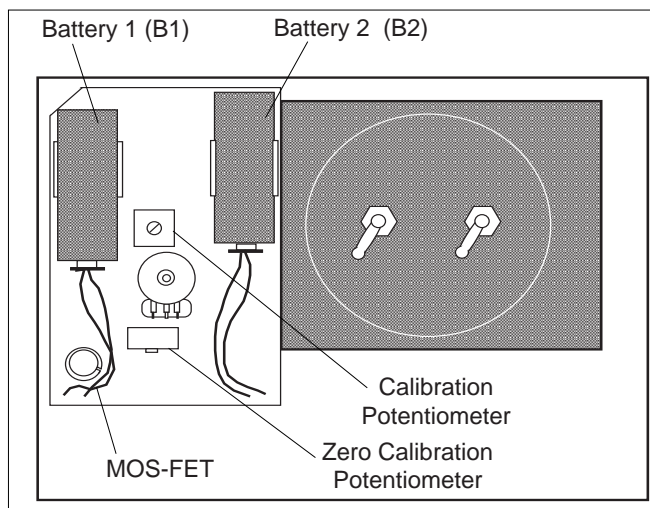

Figure 5 Inside the Electrometer
To install or replace the batteries, remove the four screws that fasten the front panel to the case, then gently lift the front panel out of the case. Install the batteries as shown in Figure 5. When removing and installing the batteries, be careful not to bend the battery clips or pull the battery wires out of the circuit board. Place the new batteries in the clips with the positive terminal closest to the printed circuit board. Before replacing the front panel, test that the batteries are good and the connections are secure by flipping the FUNCTION switch first to B1 and then to B2. The meter pointer should be deflected out beyond the areas labeled B1 and B2, respectively, at the bottom of the meter face. Replace the front panel.
- ① Remove the four screws that fasten the front panel to the case, then gently lift the front panel out of the case.
- ② Turn the POWER switch to ON.
- ③ Set the FUNCTION switch to 3.
- ④ Flip the Zero Switch to ZERO LOCK. With the zero adjust knob midway between its extreme cw and ccw positions, adjust the Zero Calibration Potentiometer to zero the meter.
- ⑤ Set the Function Switch to 30, zero the meter using the zero adjust knob on the front panel, then connect the INPUT of the Electrometer to a known, accurate 30 VDC source.
- ⑥ Flip the Zero Switch to the PUSH TO ZERO setting.
- ⑦ Adjust the Calibration Potentiometer (see Figure 5) until the meter reads 30 volts.
- ⑧ Press the Zero Switch, then release it. The meter should still read 30 volts. If it doesn't, readjust the Calibration Potentiometer until it does.
- ① Turn the Electrometer off.
- ② Remove the four corner screws that fasten the front panel to the case, and gently lift out the front panel.
- ③ Gently pull the MOS-FET out of its socket (see Figure 5). Avoid yanking or twisting it, as this may damage the transistor socket.
- ④ The replacement MOS-FET will probably come in an anti-static bag or may be wrapped in aluminum foil. The leads will be protected by a thin ring or spring that is wound around the leads near where they protrude from the base of the transistor. Gently remove the MOS-FET from the bag or foil, but do not remove the thin wire ring that is around the leads. Leave this wire ring in place until after the MOS-FET is seated in the socket.